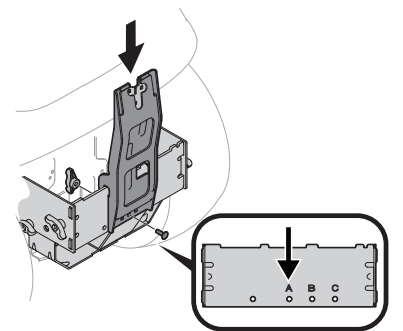

Figure 5
2. Align the center hole on the vertical support with the hole on the cross mount bracket which corresponds with the deck size of your tractor. See Figure 5.
3. Secure the vertical support to the mounting assembly using a carriage bolt (710-0276) and a wing knob (720-04122) from hardware pack 689-02364. Refer to Figure 5.